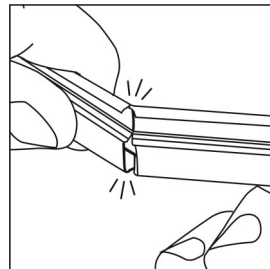

Fig. 9
3. Grip bar on both sides of score line, and bend along the score line. The bar will break (Fig. 9)